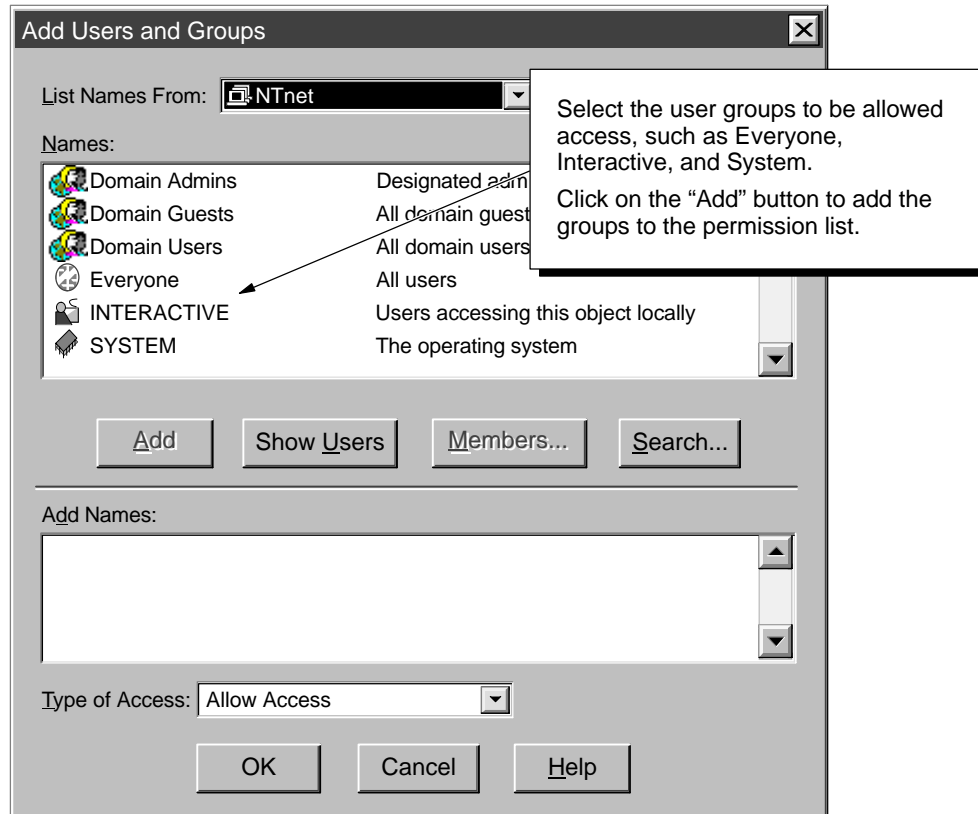

Figure E-8 Changing the Launch Permissions for Users or Groups
2. Click on the “Add” button to display the “Add Users and Groups” dialog box and change the security settings for access to the server. See Figure E-8.
3. In the “Names” field of the “Add users and Groups” dialog box (Figure E-8), select “Everyone” (or the appropriate subset of users) and click on the “Add” button.